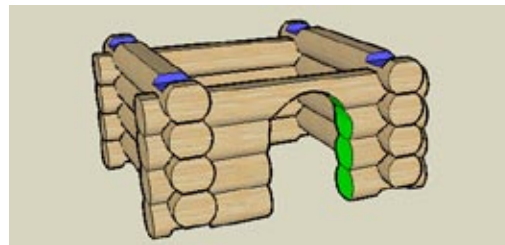

Figure 3-80
4. Explode all of the log components cut by the group and explode the group as well. (Again, this is because the logs will need to “borrow” surfaces from the cutting shape.) Intersect and trim. Done (Figure 3-80)!